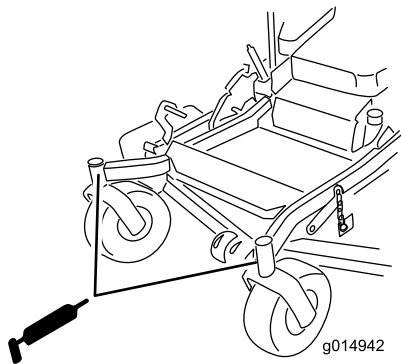

Figure 40
- Install the hex plug and dust cap (Figure 40).